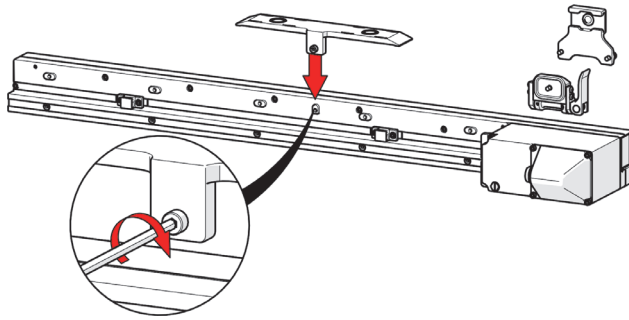

Figure 2-55 Affix the magnetic base to the raster arm
13. Align the screw for the cable tray's magnetic base to the center of the raster arm. Tighten magnetic base screw (see Figure 2-55 on page 84).